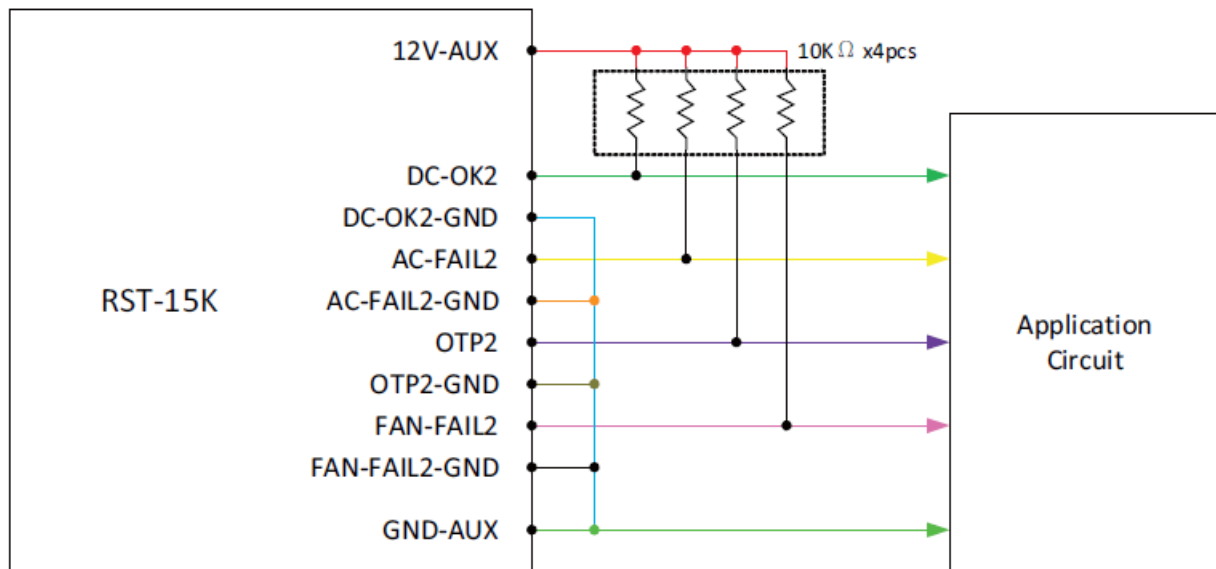

Fig 5.2
(2) Open collector output {DC-OK2-GND, DC-OK2} ; (AC-FAIL2-GND, AC-FAIL2) ; (OTP2, OTP2-GND) ; (FAN-FAIL2, FAN-FAIL2-GND)} An external voltage source is required for this function that is shown in Fig 5.2. These